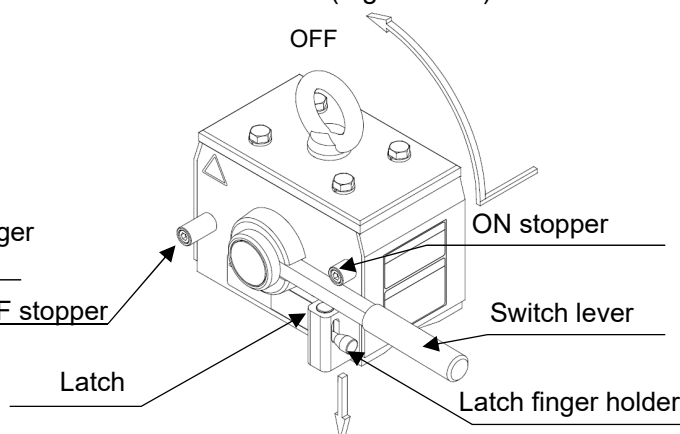

Figure 10-4 KRD30, KRD50, KRD80, KRD100, KRD160
- KRD30, KRD50, KRD80, KRD100, KRD160: Put a finger into the latch finger holder and press down the latch, and pull the switch lever toward you at the same time. (Figure 10-4).